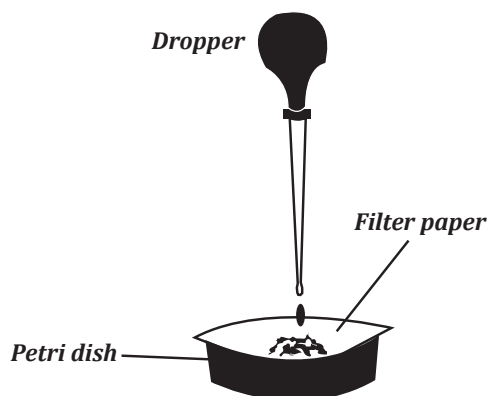

Figure 6.14; chromatography.
6. Place a filter paper over the top of a petri dish, as shown in figure 6.14.